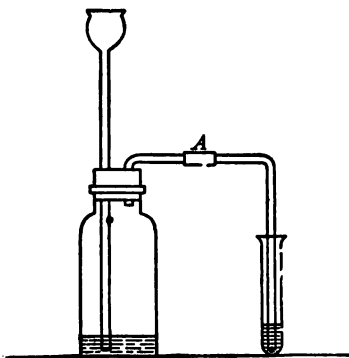

FIG. 41
**93. Hydrogen sulfide.** *a.* (Hood.) Attach a delivery tube to the hydrogen generator, as represented in Fig. 41. Put into the generator a few pieces of iron sulfide ( $\text{FeS}$ ) and insert the stopper. Before generating the gas have at hand a dry bottle in which to collect some of it, a short piece of glass tubing of size to fit the rubber connection *A* and drawn to a jet at one end, also test tubes about one fifth full of solutions of each of the following compounds: copper sulfate, zinc sulfate, cadmium sulfate, magnesium sulfate, sodium chloride. Now pour a few drops of a dilute solution of sulfuric acid (1 part acid to 7 parts of water by volume) through the funnel tube of the generator, adding more from time to time, if
*b.* Expose a piece of moist litmus paper to the gas. What is its reaction? Dip a piece of filter paper into a solution of lead acetate (side shelf) and expose it to the gas (R).
*c.* Collect a bottle of the gas by downward displacement, allowing the gas to flow until it is ignited by a flame held at the mouth of the bottle (R). Account for the deposit on the sides of the bottle. Connect the glass jet with the delivery tube at *A* and ignite the gas at the tip. Note the appearance of the resulting flame. What are the products of the combustion? Hold a cold porcelain dish in the flame. What is deposited on the dish? Why?
d. Cause the gas to bubble for a few seconds through each of the solutions in the test tubes (Fig. 41), noting the color of the precipitates obtained. What is the composition of each (R)? In which cases does no precipitate form? Why is this?